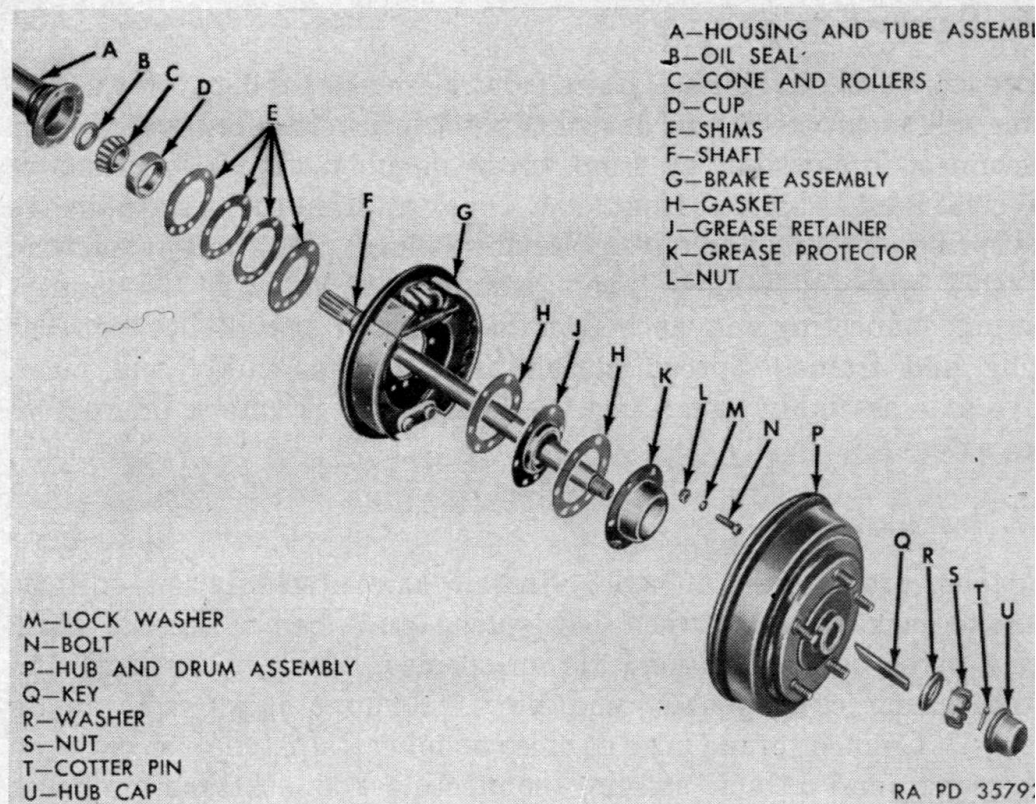

Figure 44. Rear axle—exploded view.
*a. DESCRIPTION.* The rear axle (fig. 44) is of the semifloating, single reduction driving unit type, with hypoid gears. The differential housing is offset to the right so that the propeller shaft has a straight drive from the transfer. A cover is used on the rear of the differential housing to permit inspection and cleaning.
*a. REMOVAL.* Place jack under axle housing, and raise wheel so that tire clears floor. Remove hub cap, cotter pin, axle shaft nut and large Woodruff key. Remove hub and drum assembly. Remove six bolts, lock washers and nuts attaching the grease protector, grease and bearing retainers, and the brake assembly, and remove the shim and retainer. Pull out the axle shaft using care not to lose the adjusting shims (fig. 44). Remove bearing and oil seal.
*b. INSTALLATION.* Install axle shaft in axle housing, rotating shaft so that shaft will enter differential side gear, using care not to damage inner oil seal. Install wheel bearing and shims (par. 171). Check for adjustment (par. 171). Install the brake assembly, grease protector, grease and bearing retainers. Install wheel hub, axle shaft nut, Woodruff key and cotter pin (fig. 44). Replace wheel hub cap. Lower vehicle to floor.
With the hands, test end play by moving axle shaft in and out. If bearings are correctly adjusted, end play of the axle shaft will be just perceptible. The bearing adjustment shims (fig. 44), are placed between the brake backing plate and axle flange as shown in figure 44. Remove or install shims to adjust the bearings to provide 0.003 in to 0.007 in end float of the axle shaft.